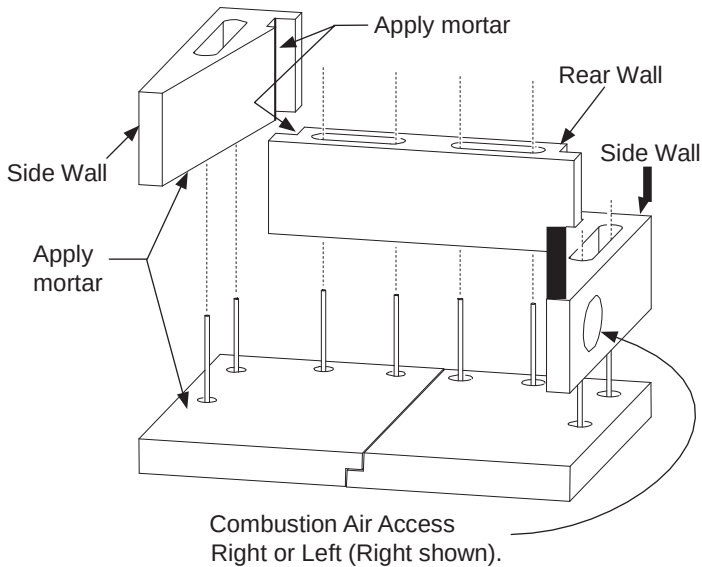

**Figure 38 - Layering walls and sides for MM33,39,44,49**
6) Assemble the first layer as shown in Figure 38 and 39. Continue to the next layer sides and rear pieces, keeping components moist, mixing mortar as you need it and threading the mortar appropriately as you stack each section, one onto the next. Constantly check for squareness and levelness while building each course of block. As you complete each piece, make certain that you adhere the mortar at each and every joint. See chart below for the number of layers for need for this step.